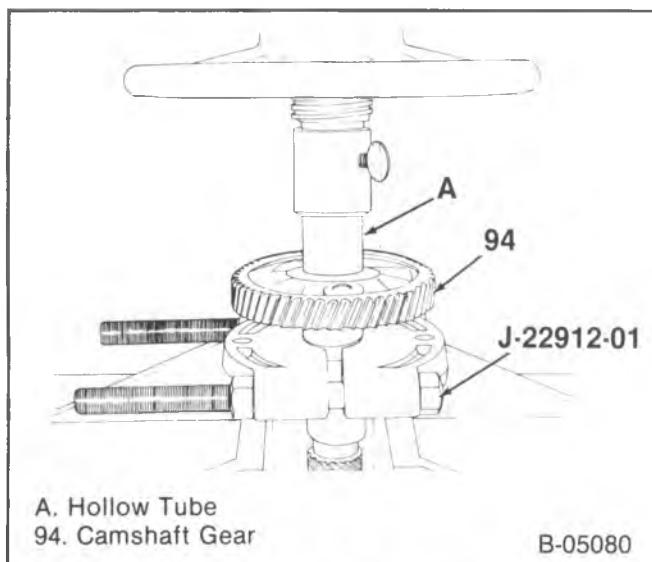

Figure 30—Installing the Camshaft Gear
- Support the camshaft (182) at the front journal with tool J-22912-01 (or equivalent) (figure 30). Mount the camshaft in a press as shown.
- Lubricate the thrust plate (95) with engine oil.
- Key (96) (if removed).
- Spacer (97). Make sure the chamfer in the spacer faces towards the journal radius.
- Camshaft gear (94).
- Press the camshaft gear onto the camshaft until it bottoms on the spacer (figure 30).